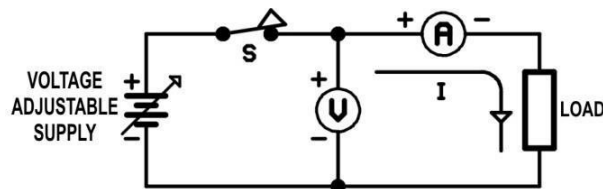

Figure 27: Basic electric circuit that Volt-meter and Amper-meter is used.
In Figure 27, the S switch is closed. If the voltage of adjustable generator is increased it will be observed that the current also increases. If voltage is decreased then the current also decreases. This means that voltage is directly proportionate to the current. If any value of voltage is divided by the current at the same moment, the result will be the same. This constant value equals the circuit resistance (R). Mathematically, resistance in circuit: